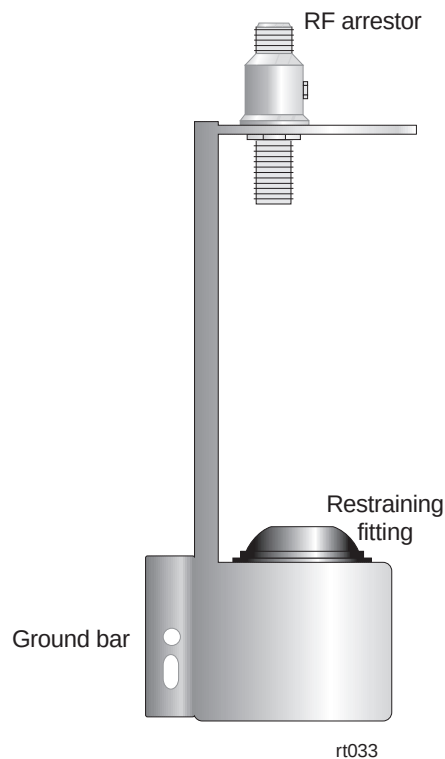
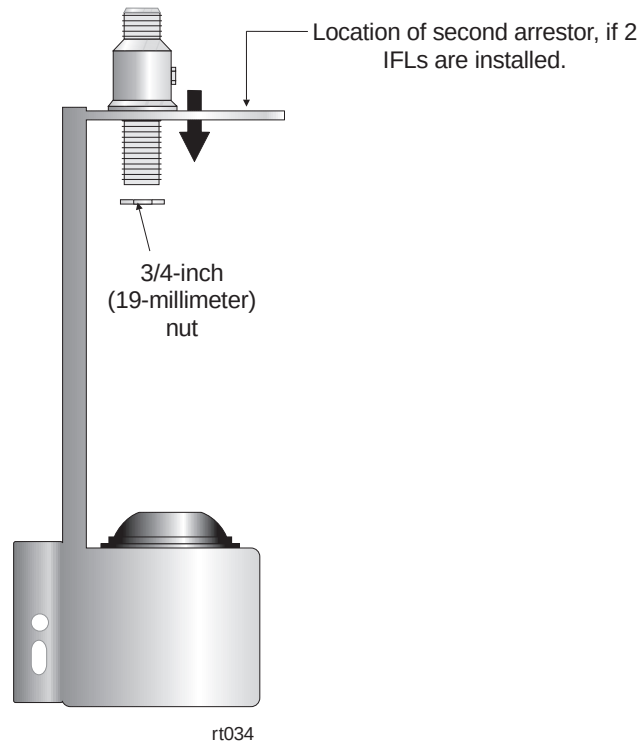

Figure 4-5 Typical RT lightning arrestor
Figure 4-6 Attaching the arrester to the arrester body
Figure 4-5 identifies the components of a typical RT lightning arrestor. The design illustrated here (see also figure 4-6) can accommodate one or two IFL cables for up to two RTs.
1. Attach an RF arrester to the arrester body with a 3/4-inch (19-millimeter) nut. See figure 4-6.